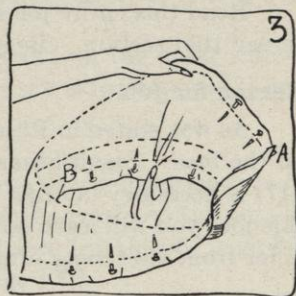

FIG. 3.
- b. If you are stretching on the under facing, omit this section. (If your block can only be used on the top facing, tack in the groove in the edge, follow Sections *c*, *d*, *e*, *f*, and *g* and tie a cord at the headsize just as if you were blocking felt (see Figures 3 through 9 in Job 3, pages 13 and 14).) If your model frame must be stretched on the top facing, follow Sections *c*, *d*, *e*, *f*, and *g*.
- e. Pin $1\frac{1}{2}$ -inch lap of material at edgewire of the model frame (see point A in Figure 3) (or tack it in the groove at the edge of the block).
- f. Stretch the material into the headsize, removing all of the fullness, and when smooth and flat, pin at top headsize (wire) of model frame (see point B Figure 3) (or just tack it above the headsize line on the block on which you block on the top facing, or below the headsize line on the block on which you block on the underfacing).